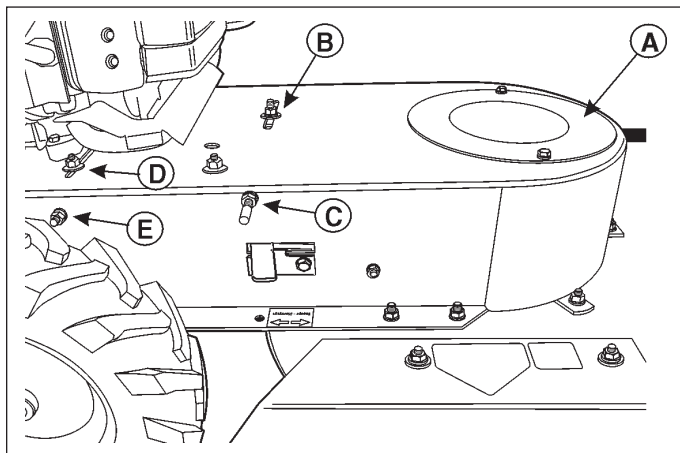
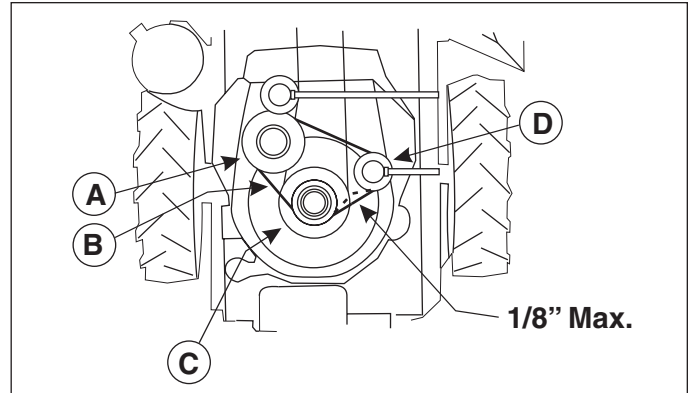
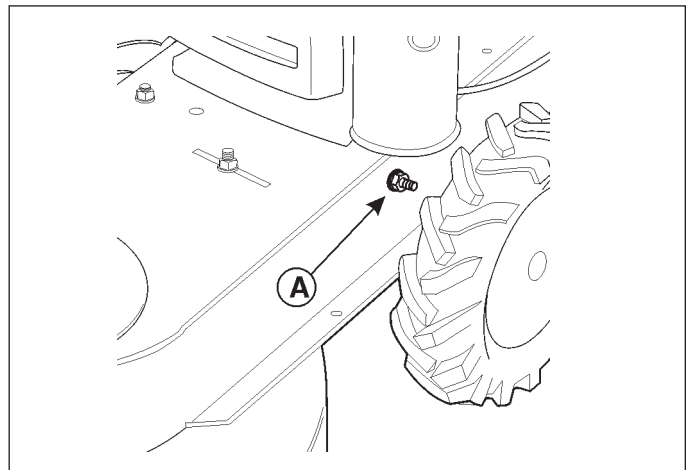
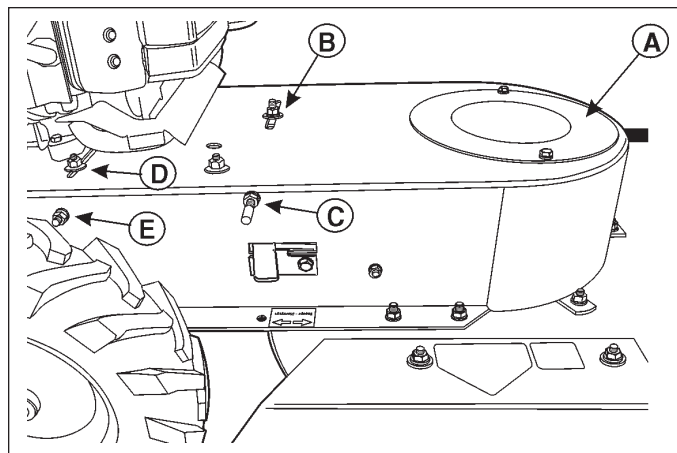

Figure 19 - Belt Adjustments
Figure 21 - Traction Drive Belt Adjustment
Figure 22 - Traction Drive Belt Adjustment
Figure 23 - Belt Adjustments
1. Remove clutch cover plate (A, Figure 19).
1. Remove blade clutch cover plate (A, Figure 19).
1. Loosen mower blade idler pulley lock nut (B, Figure 19).
2. Loosen or tighten mower blade idler pulley adjustment nut (C, Figure 19) as required.
1. Loosen traction drive idler pulley lock nut (D, Figure 19).
2. Loosen or tighten traction drive idler pulley adjustment nut (E, Figure 19) as required. Belt deflection should be approximately 1/8" halfway between the engine pulley (C, Figure 21) and idler pulley (D) with 10 lbs. of pressure on the belt.
1. Tighten or loosen nut (A, Figure 22) to achieve proper belt tension. Belt deflection should be approximately 1/8" halfway between the engine pulley (C, Figure 21) and idler pulley (D).
1. Remove clutch cover plate (A, Figure 23).
2. On early models only, loosen traction drive belt idler pulley lock nut (D, Figure 23) for the traction drive.
3. Loosen idler pulley adjustment by rotating adjustment nut (late models, A, Figure 22) or (early models, E, Figure 23).
5. Loosen mower belt idle pulley lock nut (B, Figure 23).
6. Loosen idler pulley adjustment by rotating adjustment nut (C, Figure 23).